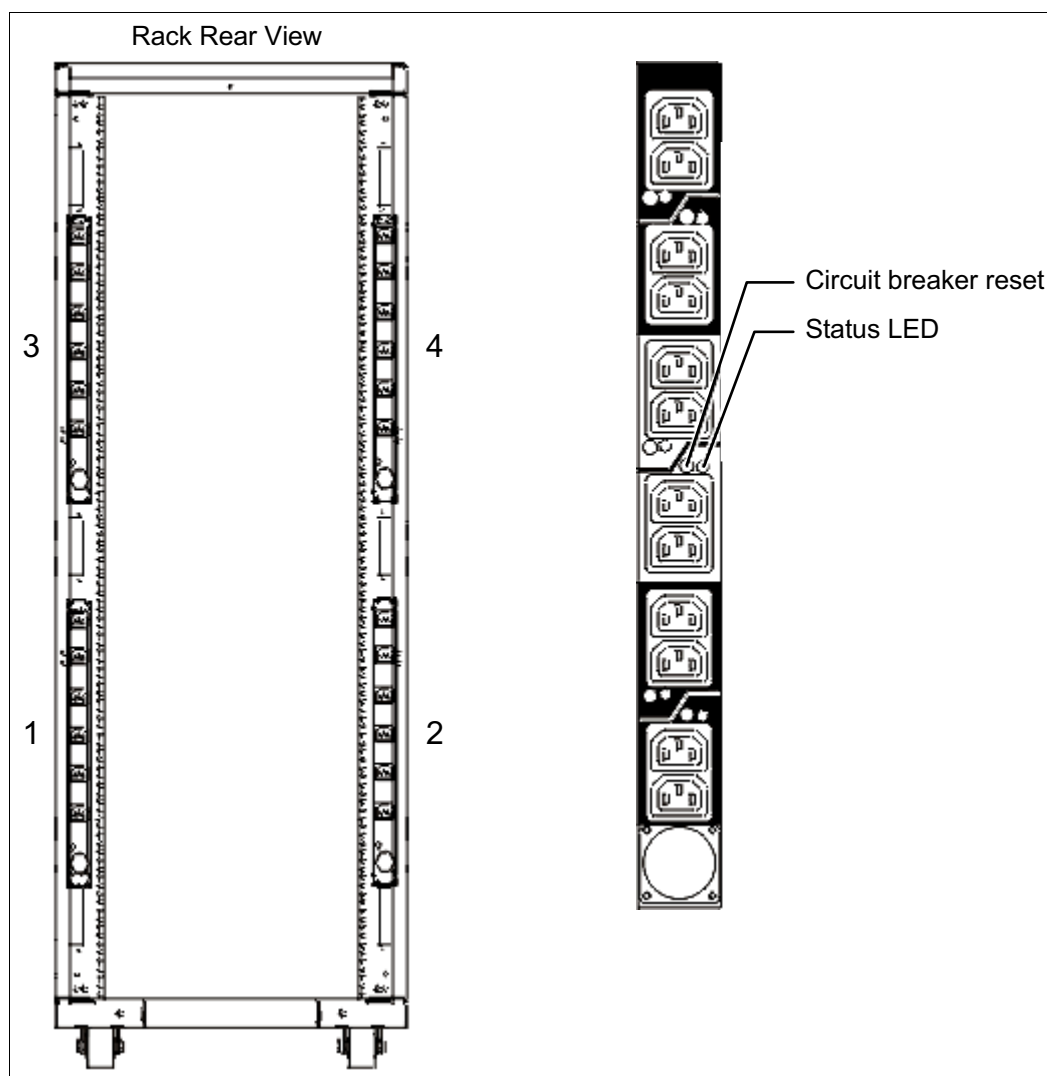

Figure A-3 PDU placement and PDU view
- ▶ Up to four power distribution units (PDUs) can be mounted in the PDU bays (see Figure A-3 on page 55), but others can fit inside the rack. For more information, see “The AC power distribution unit and rack content” on page 54.
Four PDUs can be mounted vertically in the back of the T00 and T42 racks. Figure A-3 shows the placement of the four vertically mounted PDUs. In the rear of the rack, two additional PDUs can be installed horizontally in the T00 rack and three in the T42 rack. The four vertical mounting locations are filled first in the T00 and T42 racks. Mounting PDUs horizontally consumes 1U per PDU and reduces the space that is available for other racked components. When mounting PDUs horizontally, the preferred approach is to use fillers in the EIA units that are occupied by these PDUs to facilitate the correct airflow and ventilation in the rack.